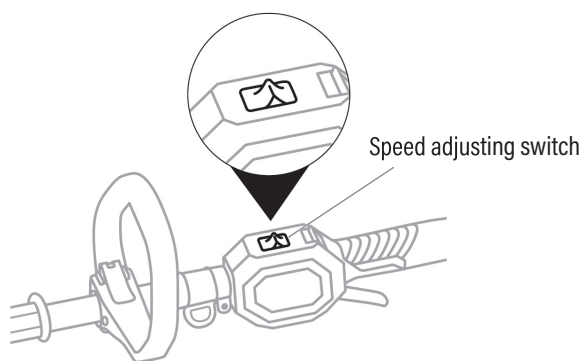

Fig. 8
2. Push the speed adjusting switch to "SPORT" for step-less speed regulation from 5000-8000RPM. And to "ECO" for fixing the speed of 6000RPM. (Fig. 8)